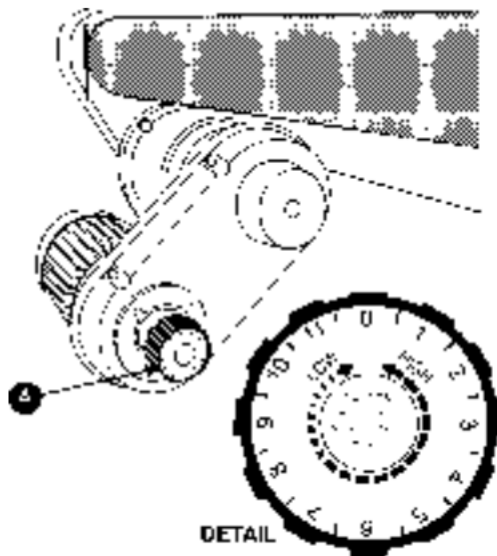

FIGURE 7
Adjust the feed speed with the speed selector knob of the worm gear reducer, (A) Figure 7, and the speed adjustment valve of the hydraulically driven conveyor belt.